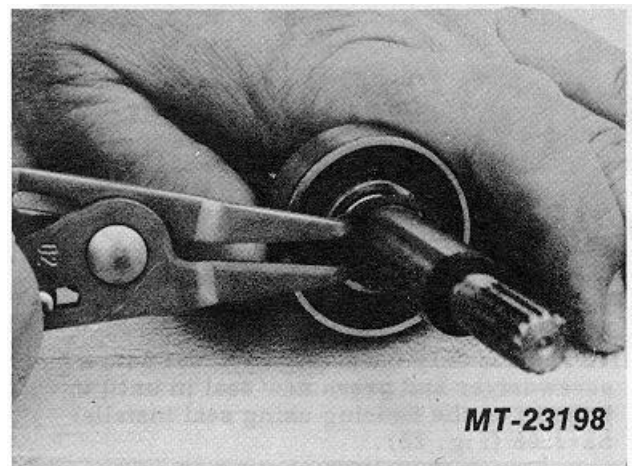

Fig. 19 Remove Bearing Retaining Ring
3. If shaft or bearing is to be replaced: (a) Remove retaining ring (Fig. 19). (b) Press shaft out of bearing (Fig. 20). (c) Press new shaft into bearing (Fig. 21). (d) Replace retaining ring (Fig. 19).